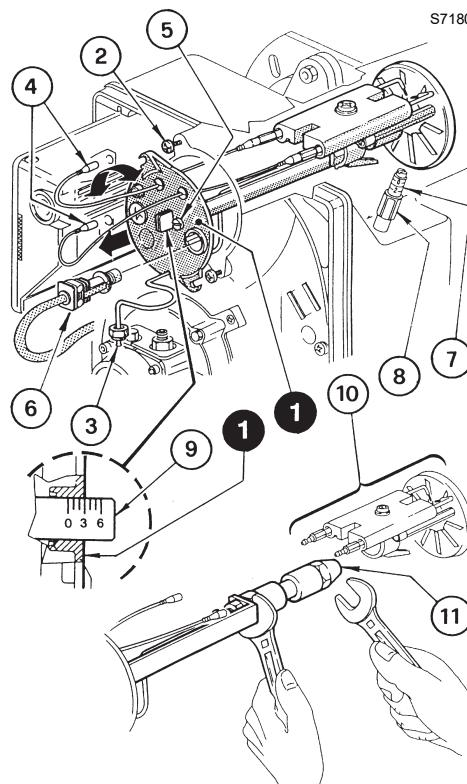

Fig. 13
- Replace nozzle (11) and screw new one on properly, holding it as illustrated in Fig. 13.
ATTENTION When refitting the nozzle-holder assembly (1, Fig. 13, on page 8), **screw on nut (3) without tightening it all the way** with a driving torque of 15 Nm, as illustrated in Fig. 14.
- To adjust air damper, proceed as follows: (Fig. 13, on page 8):
- Loosen nut (8) and adjust damper setting with the aid of the screw (7).
- Once you have finished adjusting, screw nut (8) back on.
- Replace the nozzle, (Fig. 13, on page 8) and check the correct position of electrodes (Fig. 15, on page 9).